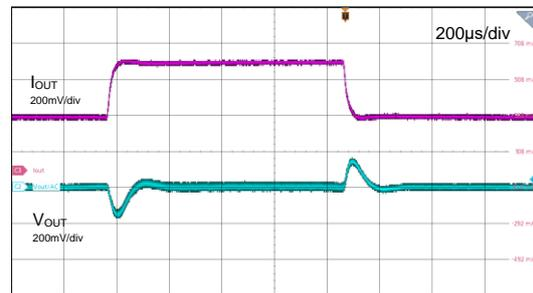

Fig.9 Load Transient, $V_{IN} = 3V$, $I_{OUT} = 0.3 A$ to $0.6 A$
3. Set electronic load to dynamic mode and set load step from 0.3A to 0.6A with a slew rate of $1.2A/\mu s$, use oscilloscope to observe output voltage and load current (See Fig.9).